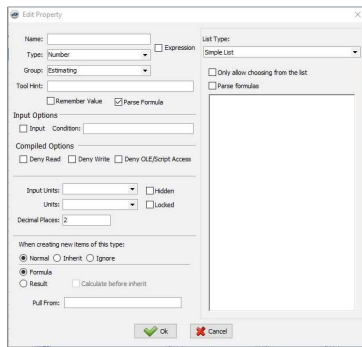

Figure 4
4. This opens a new **Edit Property** window (Figure 4). Notice that the **Name:** field is blank in this window, allowing you to give it a name of your choosing. The **Type:** field's down-arrow opens a drop-down menu that allows you to specify the type of value assigned to the field: **Number**, **Color**, **Text**, **Memo**, **CheckBox**, **Path**, **Image**, **Large Image**, **Type**, **Script**, **File**, **Large File**, **File Name**, **Folder**, **Font Name**, **Connection String**, **Slider**, and **Dimension**. The **Type:** field's default is **Number**. The attributes a developer would most commonly use are **Text**, **Memo**, or **Number**. A few others, including **CheckBox** and **Slider** could also be useful. Selecting **CheckBox** would display a checkbox, which represents a boolean value (true or false): if it is checked, it is true; if not checked, then it is false. Enter the name **Test Property** in the **Name:** field; click on the **Type:** field's down-arrow and select **CheckBox** from the menu, and then click on **OK**.